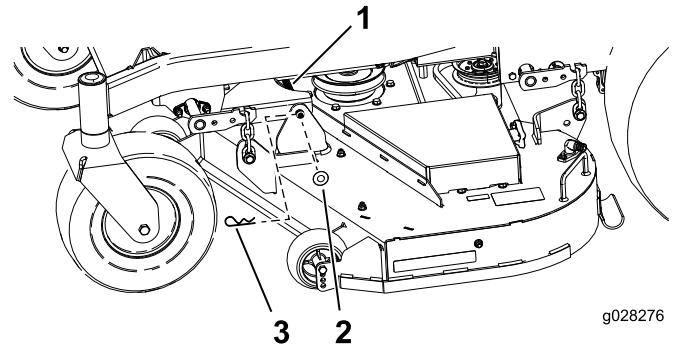

Figure 67
- Remove the hairpin cotter and washer securing the link pin to the frame and deck, and remove the link bar (Figure 67).
9. Secure the link pin with the hairpin cotters and washers removed previously (Figure 67).